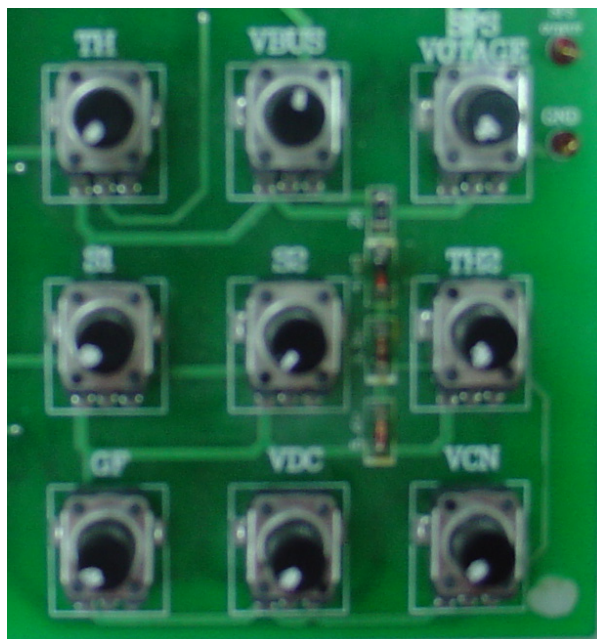

Figure 8.2
- 2) When the test kit is ready to operate, before examining the control board, please adjust all the potentiometers to the normal position (VBUS is adjusted to $\odot$). Please refer to Figure 8.2.